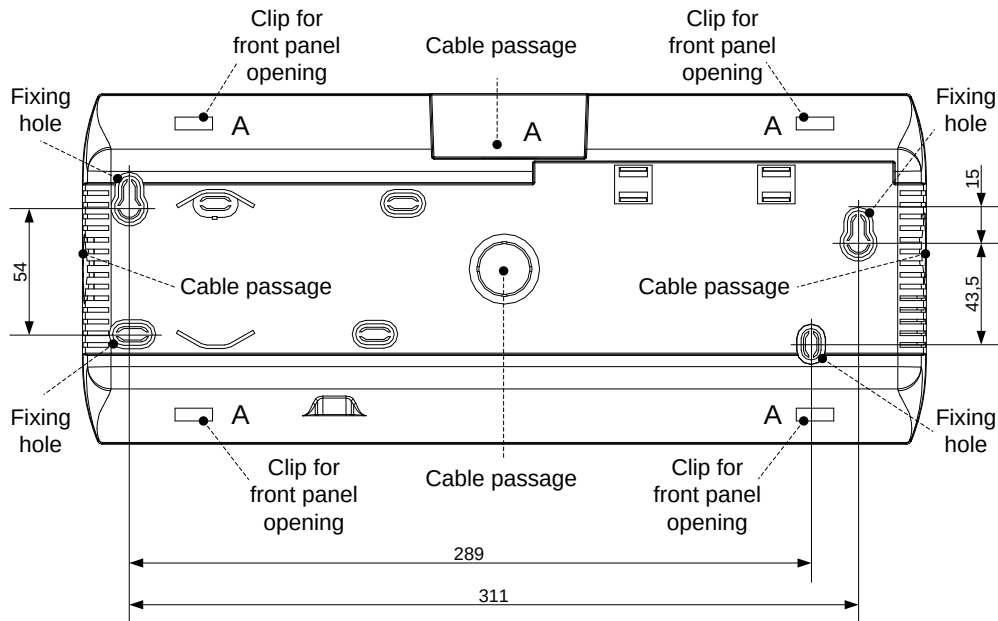

Figure 2 - Rear view – dimensions in mm
- Install on a wall by using the relevant fixing holes placed on the bottom of the enclosure (as illustrated in *figure 2*).